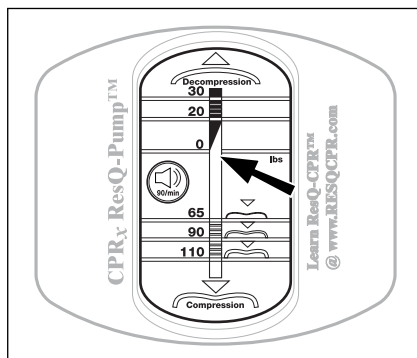

Figure 12
5. Loosen the screw and adjust it until the gauge is on the zero line (**Figure 12**). Compress the spring a few times and check that the zero reading remains correct. Fine readjustment may be needed. If the screw was heated, wait until it cools to room temperature before proceeding to the next step.